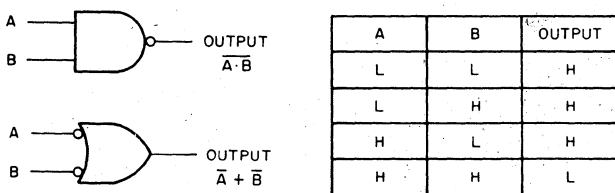

Figure 2. NAND Gate Logic Symbol and Truth Table
**NAND Logic Symbol:** Logic symbology used to describe M Series modules is based on widely accepted standards. Logic symbols and a truth table for the NAND gate are shown in Figure 2.